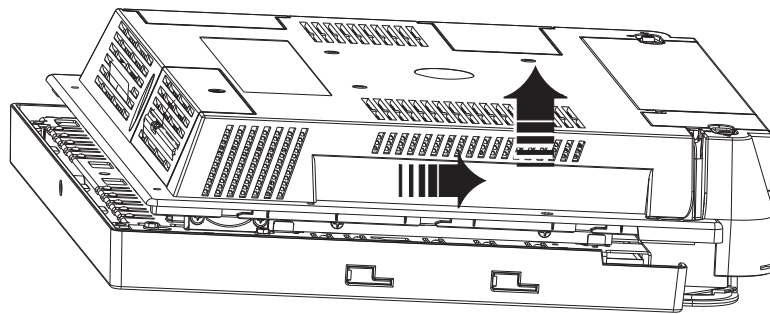

Figure 19. Removing the rear cover
1. Place the unit face down on a steady surface and align the back cover approximately 8 mm (0.3 in) lower than the top cover (see Figure 19).